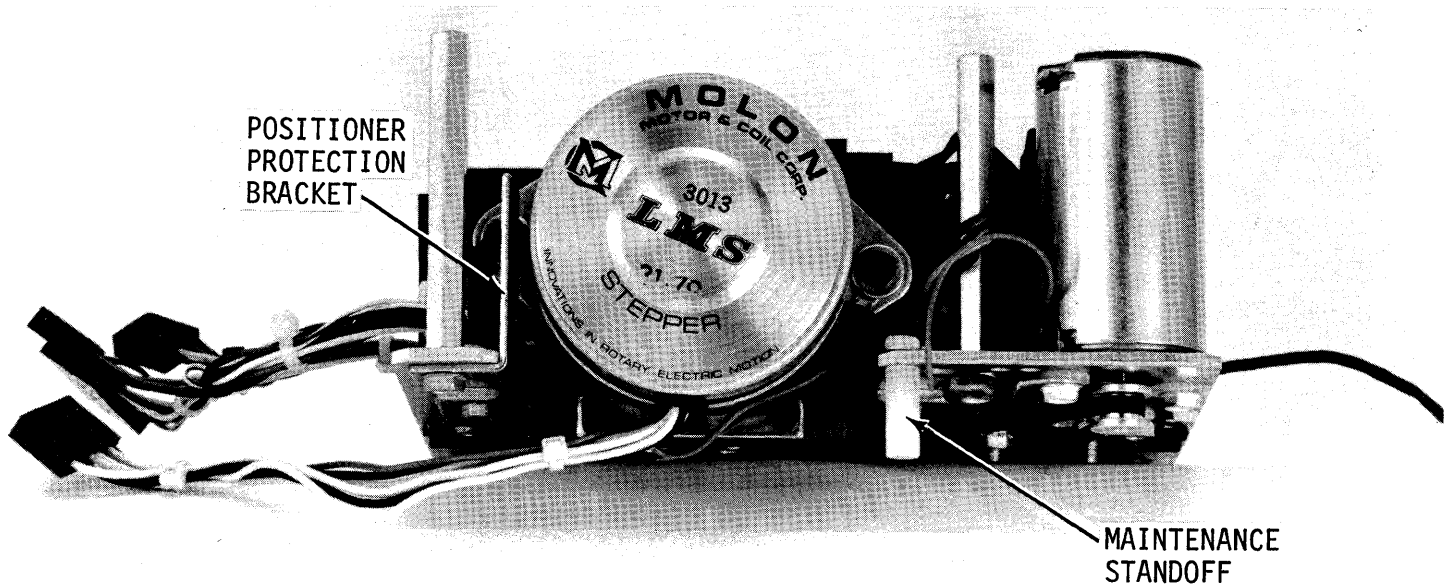

Figure 6-6. Positioner Mounting Screws and Protection Bracket
- c. Loosen the screw securing the positioner protection bracket (see figure 6-6) and turn the bracket out of the way so the positioner can be removed.